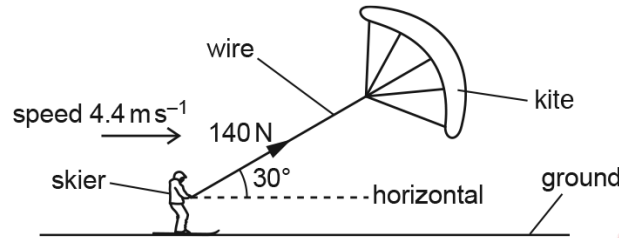

Fig. 3.1 (not to scale)
- (b) A skier is pulled along horizontal ground by a wire attached to a kite, as shown in Fig. 3.1.